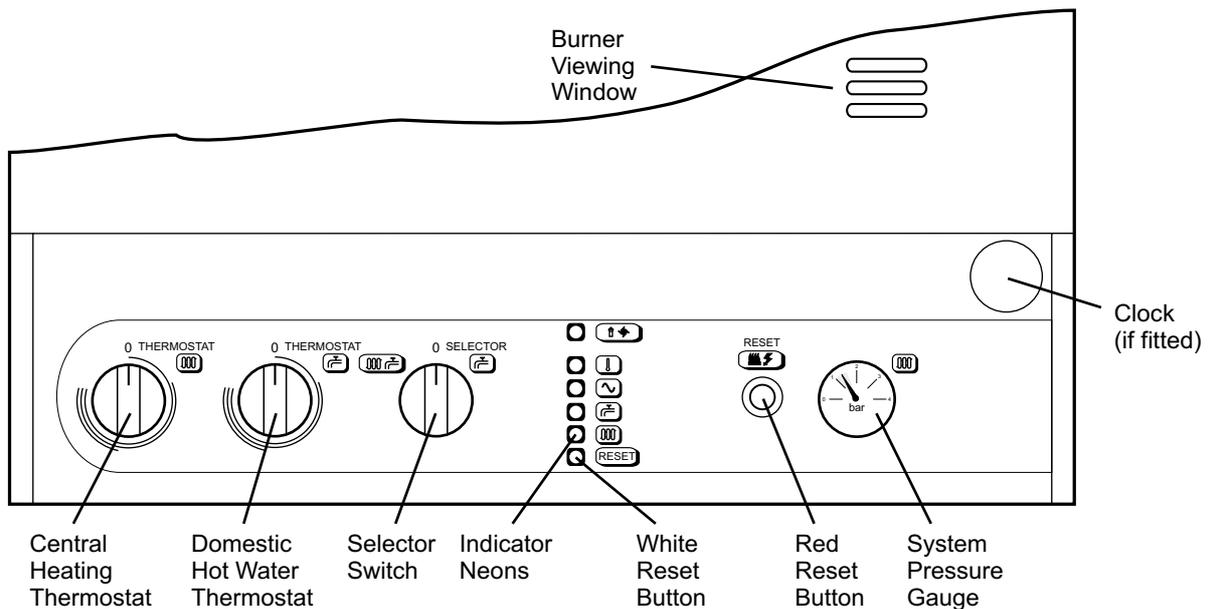

Fig. 1
-  Overheat thermostat has operated - press **white** reset button (see Fig. 1) to reset.
When the red reset button () is illuminated it indicates that the burner has failed to light - Press the **red** reset button (see Fig. 1) and the ignition sequence will restart.
This thermostat automatically switches the boiler off in the unlikely event of the boiler overheating. When the thermostat operates, the  neon is illuminated. Press the white reset button (see Fig. 1) and the ignition sequence will restart. If this continually happens, contact your Service Engineer.
Refer to Fig. 1 for boiler controls.